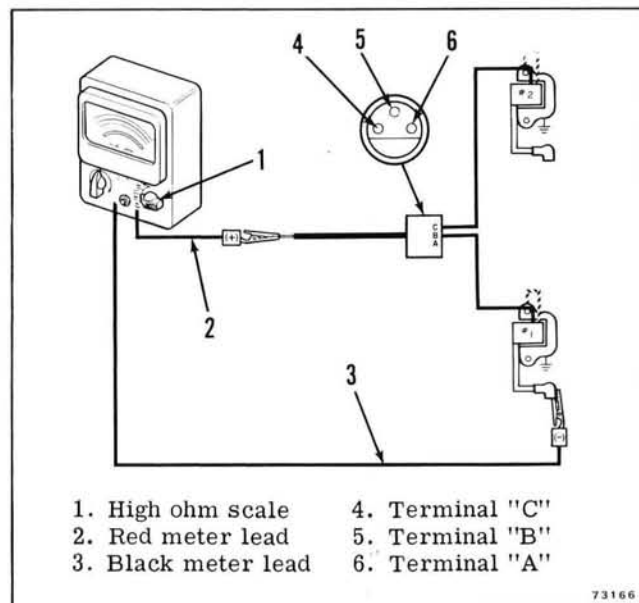

Figure 4-30. Secondary Winding Resistance
f. Calibrate the ohmmeter to high ohm scale, then connect the meter red lead (+) to the "B" terminal jumper wire. Connect the meter black lead (-) to the terminal inside the high tension lead cover. See Figure 4-30.